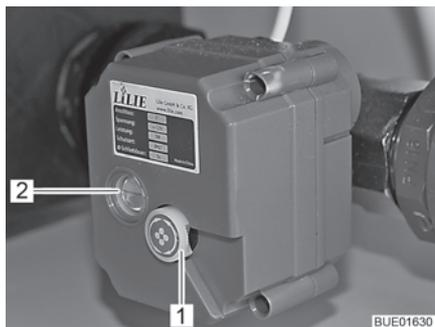

Fig. 196 Electrically operated drainage valve
A red line in the inspection window (Fig. 196,2) of the electrically operated drainage valve shows the valve setting:
- Pull out the rotary knob (Fig. 196,1) on the electrically operated drainage valve and rotate (in any direction).